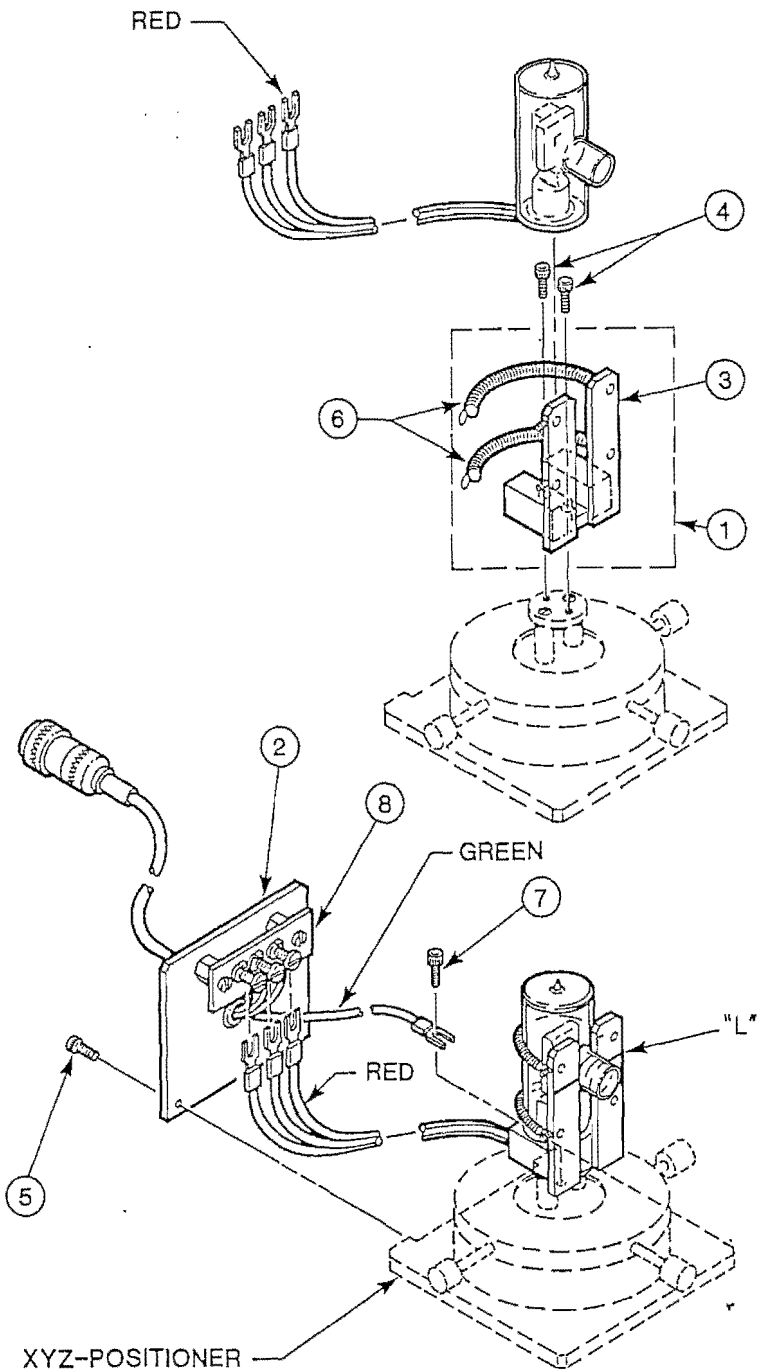

Figure 8 - Deuterium Lamp Mounting Configuration
Note: The XYZ positioner shown with Figure 8 is not included with this kit.
The kit consists of the following components: (See Figure 8)
- a. Place the lamp mount, item 1, on the mounting platform of the XYZ Positioner so that the Guide strips, item 3, are located opposite to the position where the deuterium panel, item 2, will mount. This position is shown in Figure 8.
- b. Secure the lamp mount to the platform using the (2) #4-40 x 1/2 screws, item 4, enclosed.
- c. Secure the deuterium interface panel, item 2, (as shown in Figure 8) using the (2) enclosed #6-32 x 3/8 screws, item 5.
A pinhole source at the focus of an ideal lens produces a beam which is close to the ideal collimated beam. In Fig.8 we show a second pinhole source a distance "d" from the first.